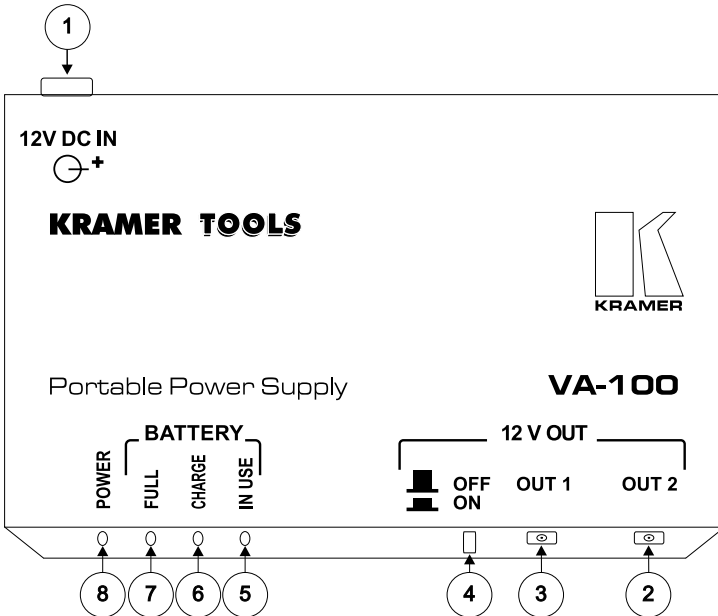

Figure 1: *VA-100* Portable Power Supply
Figure 1 and Table 1 define the **VA-100** *Portable Power Supply*:
2 Via item 1 in Figure 1